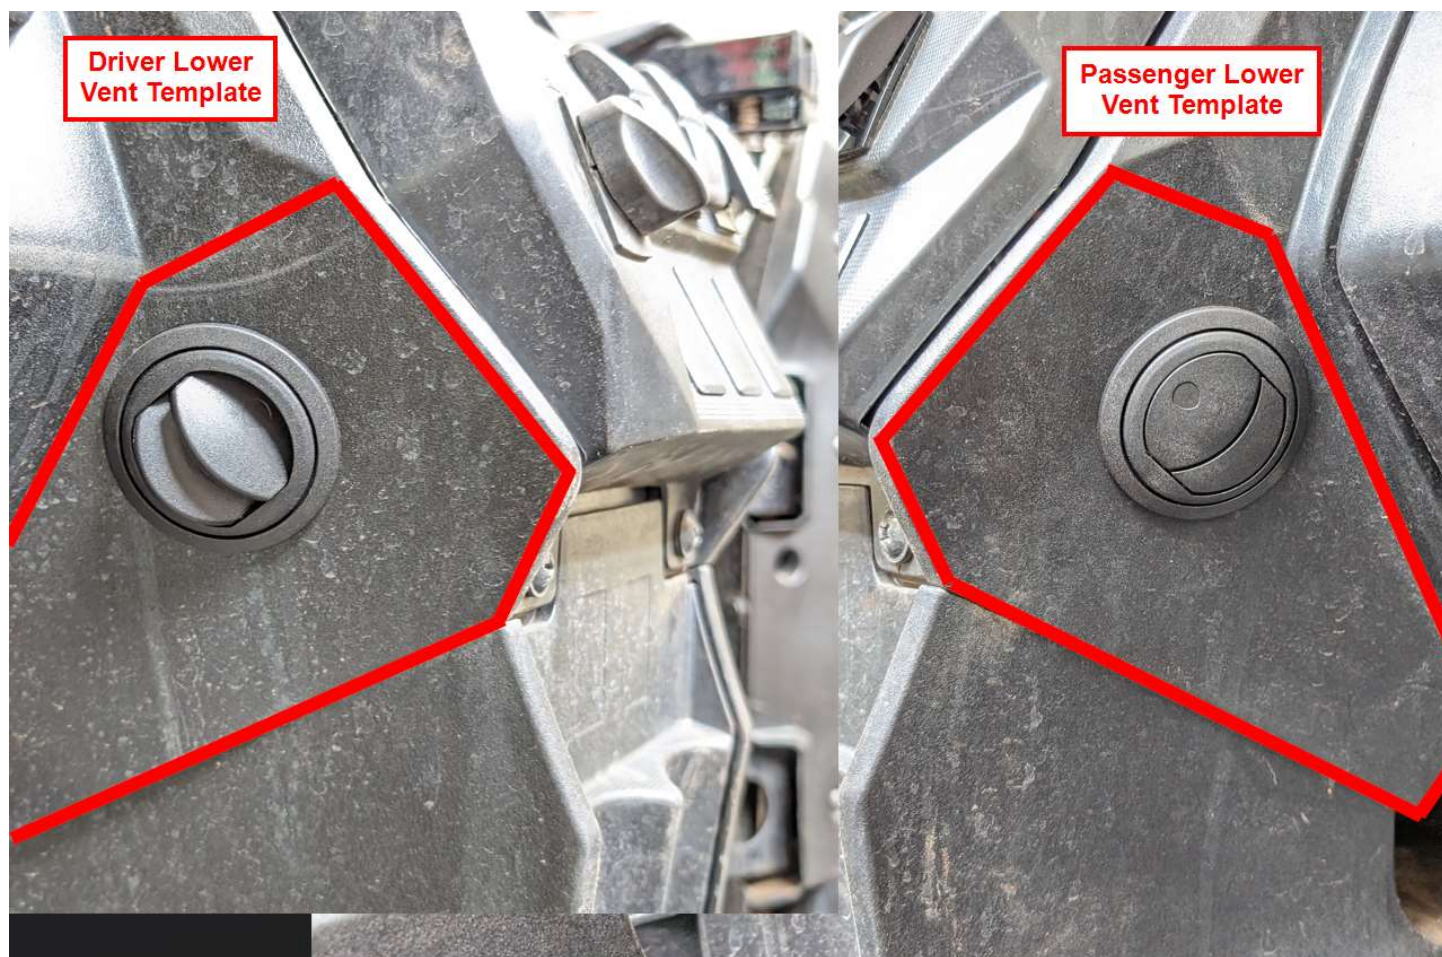

Figure 6
- d. Position the Lower Vent Templates as shown in Figure 6. Again transfer the hole centers and drill with the 54mm Hole Saw. Debur and make the notch again.